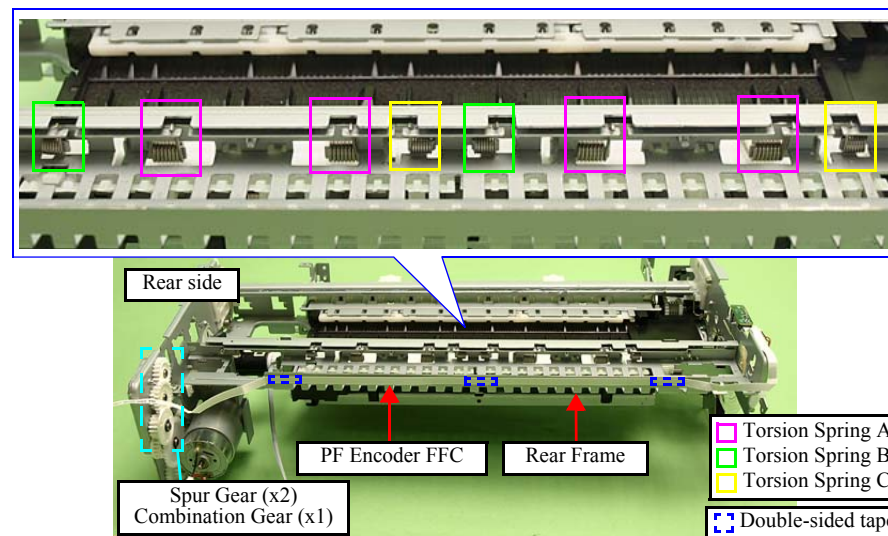

Figure 4-144. Removing the Rear Frame (1)
1. Peel off the PF Encoder FFC from the Rear Frame. (See Fig. 4-144.)
2. Remove the Torsion Spring A (x4), B (x2) and C (x2). (See Fig. 4-144.)